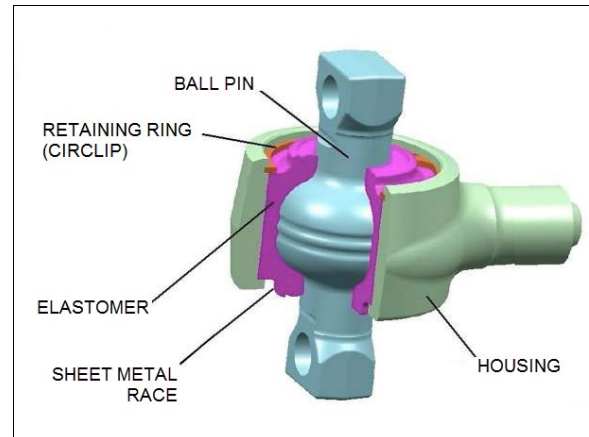

FIGURE 6: BALL PIN JOINT CONSTRUCTION 16186
- Radial cracking of the external sheet-metal race (Figure 6)